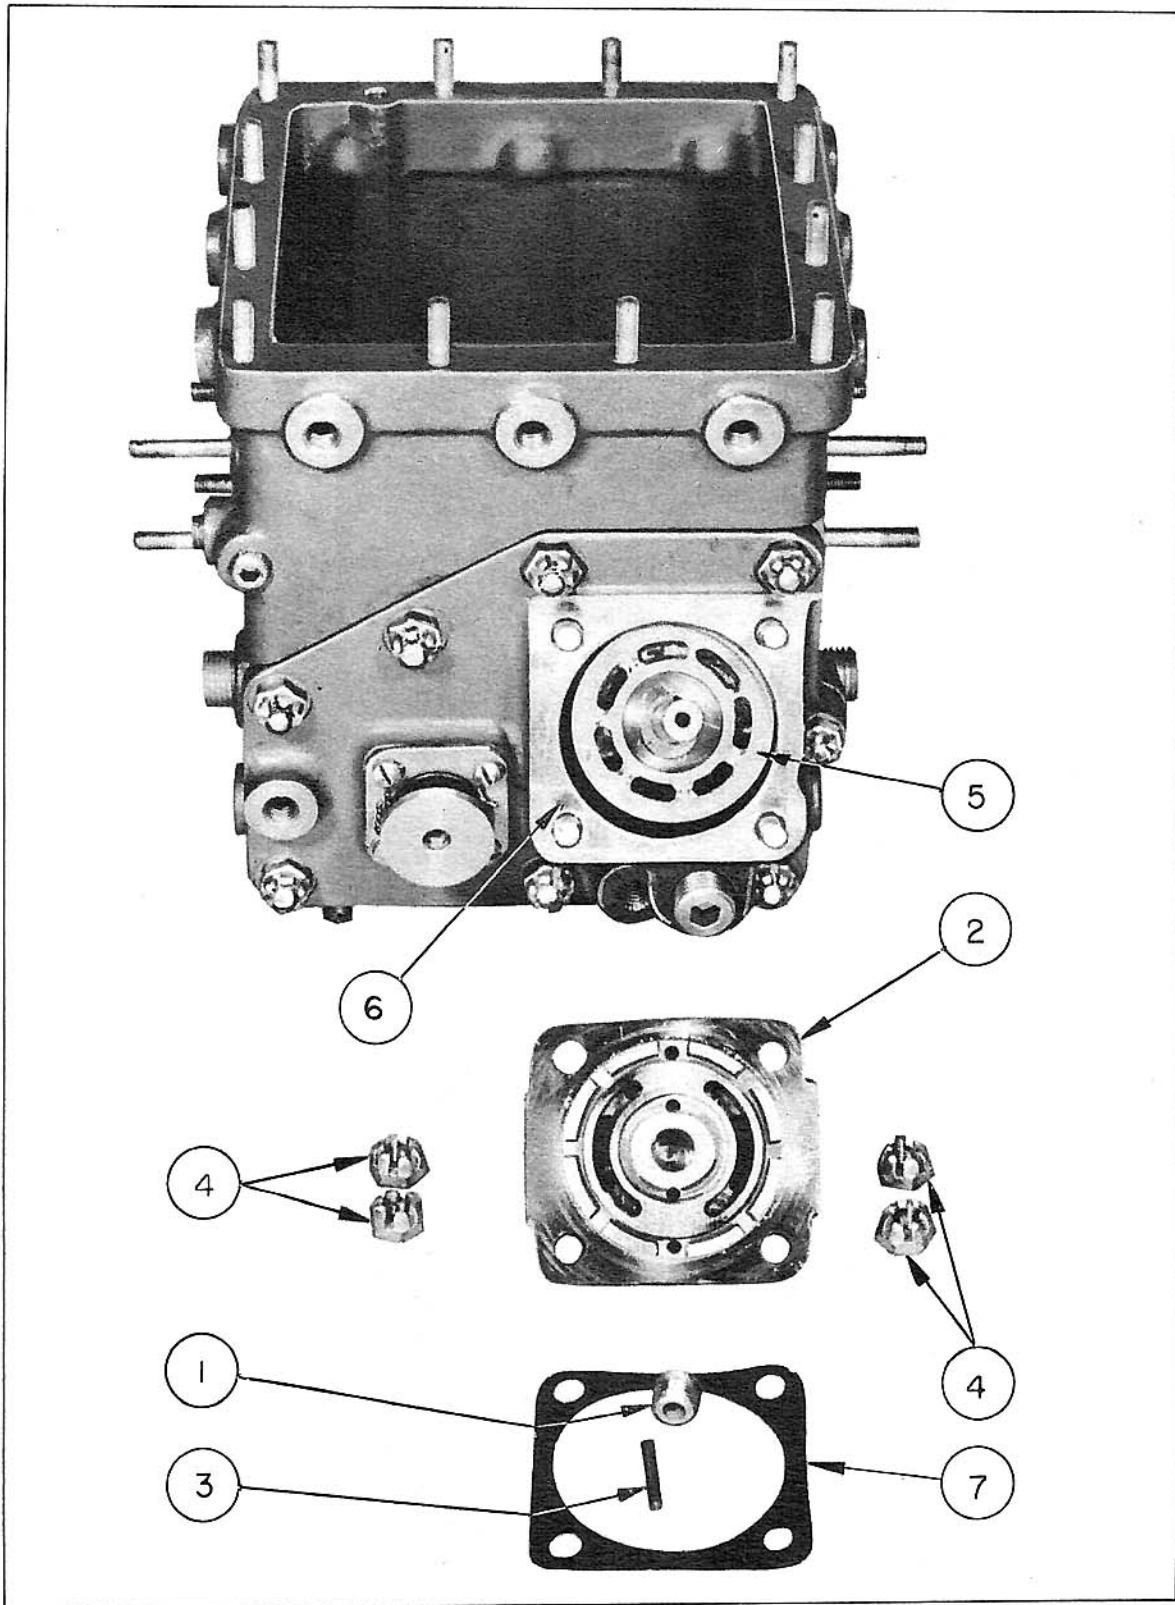

FIGURE 29
9. "B" End Valve Plate (Fig. 29)
10. "B" End Valve Plate (See Figure 29.) - a. Remove plug (1) in the "B" end valve plate (2); insert small pointed tool in hole in top of valve plate and press shaft down while removing pin, using long nose pliers. Remove the 4 nuts (4) which hold valve plate to main housing. Carefully lift the valve plate off, again using the small pointed tool inserted under the valve plate to hold the "B" end rotating assembly down as valve plate comes off.
4. "B" End Valve Plate (Fig. 29)
5. "B" End Valve Plate (See Figure 29.) - a. Place the gasket (7) between the valve plate and the housing (6), fastening the valve plate down tightly with the 4 nuts (4). Insert the cylinder locking pin (3) and replace the plug (1). Safety wire the nuts.